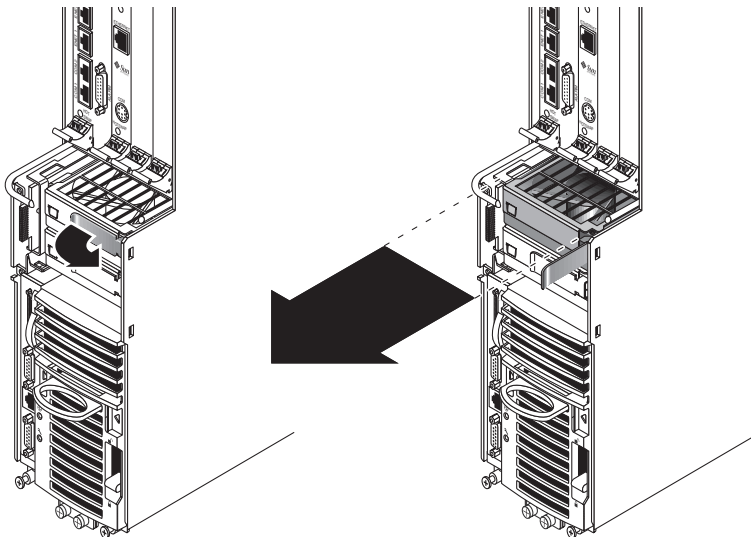

FIGURE 8-20 Removing a Fan Tray from a Netra CT 410 Server
- If you are removing a fan tray from a Netra CT 410 server, pull on the fan tray handle to disengage it from the server (FIGURE 8-20).
- If you are installing a fan tray into a Netra CT 410 server, make sure the handle on the fan tray is on the right, and press the fan tray handle to lock the fan tray into place (FIGURE 8-20).